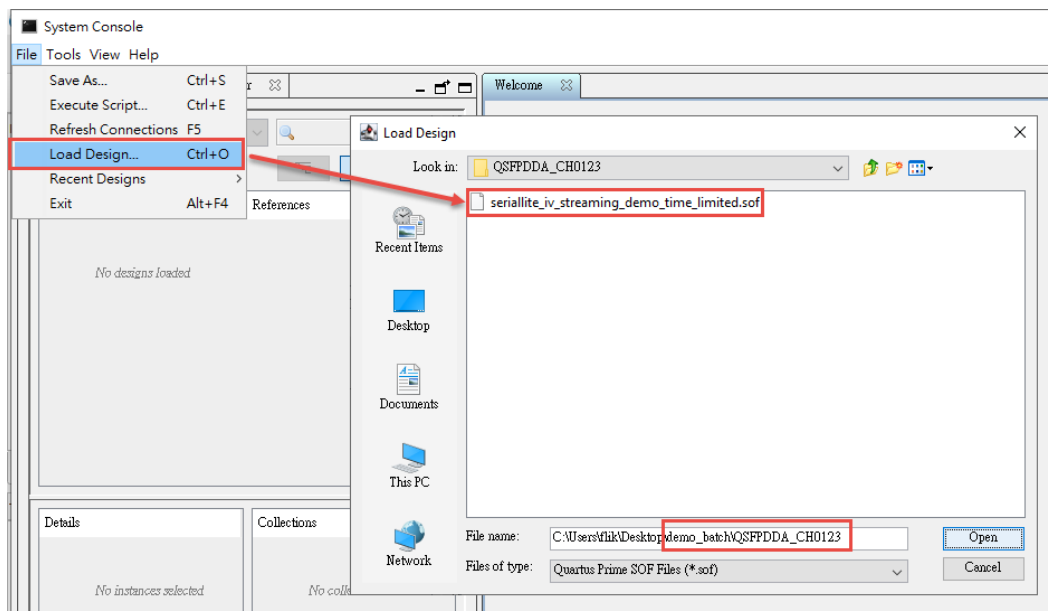

Figure 9-19 Setup QSFP28 or QSFPDD loopback fixture)
- As shown in **Figure 9-19**, click **Load Design** and select the .sof file for the design example (chose **QSFPDDA_CH0123** folder in this example) in the System Console.